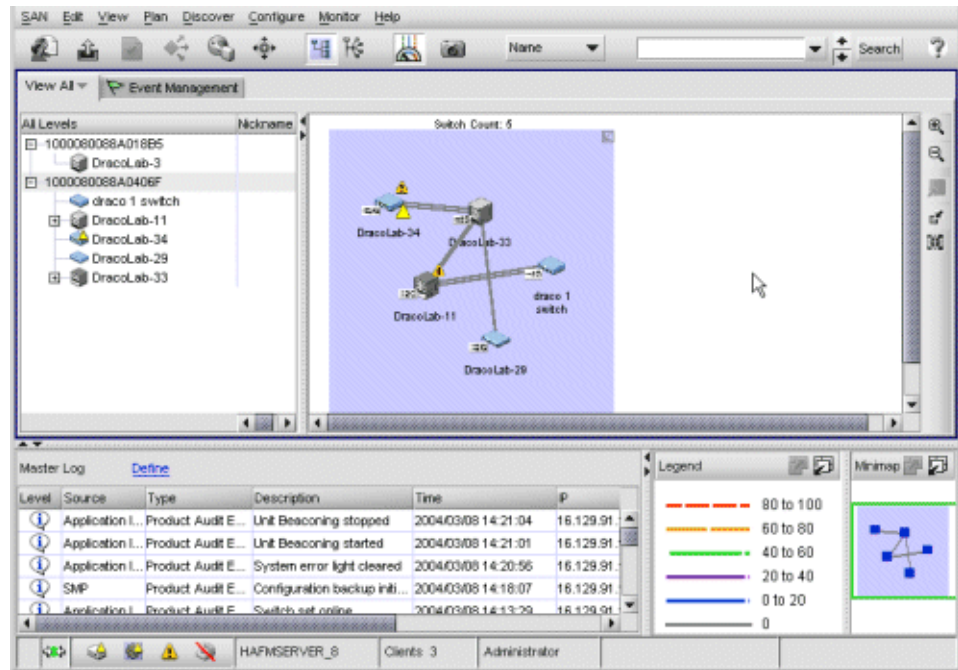

Figure 63: View All - HAFM 8 window
5. Click **Login**. The View All - HAFM 8 window displays, as shown in Figure 63.